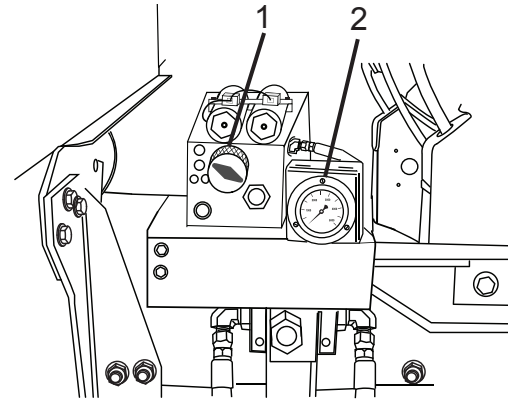

Figure 53
3. Turn the PRV knob (Figure 53, Item 1) all the way counterclockwise to minimize the pressure applied to the Bridgemaster axle when the drum is empty. Pressure will be displayed on the gauge (Figure 53, Item 2).